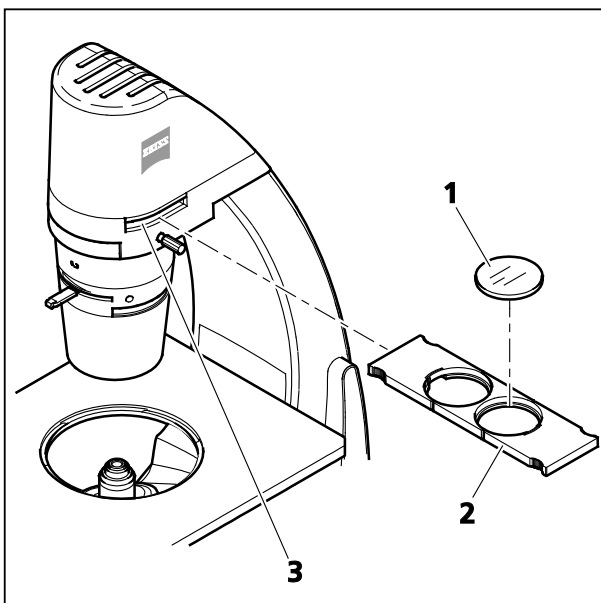

Fig. 5 Inserting the filter slider
- Put the color filter (Fig. 5/1) or the green interference filter (diameter $d=45$ mm) into the opening of the filter slider.
- Push the 2-position filter slider (Fig. 5/2) from the left or the right side into the slot (Fig. 5/3) of the upper part of the stand until it engages in the desired position.